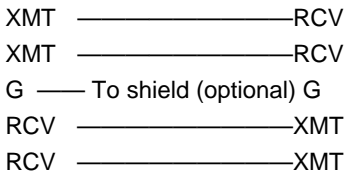

Figure 4-7. Four-Wire Pinout.
5. When you finish connecting the telephone line to units at both ends, it should look like **Figure 4-7**: